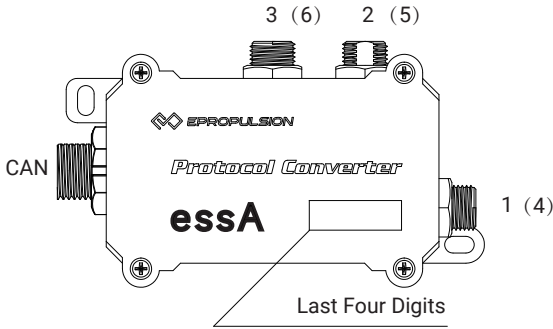

Figure 1-9
1. When installing one 485 essA box, the number of the MPPT controller is as shown in Figure 1-9;
The A end of the CAN cable is connected to interface 4 of the 485essA box (refer to Figure 1-9).
When there is only one 485essA box, interface 3 of the T-Terminal (refer to Figure 1-9) is connected to the B end of the CAN cable and interface 1 is connected to the CAN bus. When there are two or more 485essA boxes, the interface 3 and interface 1 of the two T-Terminals are connected to each other, and then connected to the B end of the CAN cable and the CAN bus.